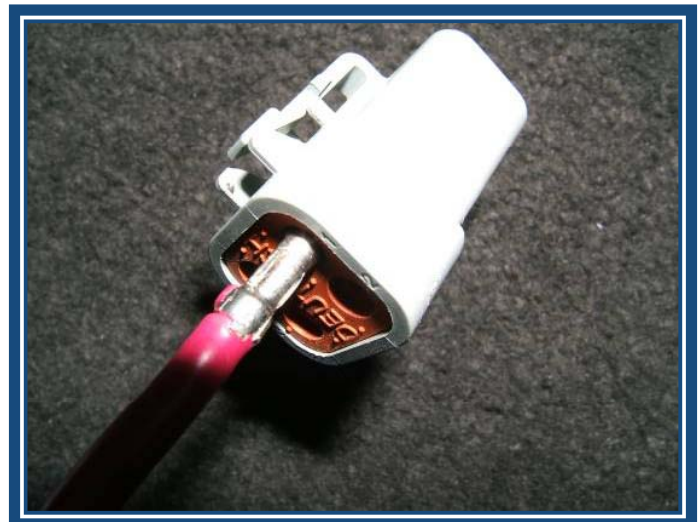

Figure 6
- Insert the ignition wire (Ignition Pin #4) from the extender module into the #4 position on the connector. (See Figure 6)